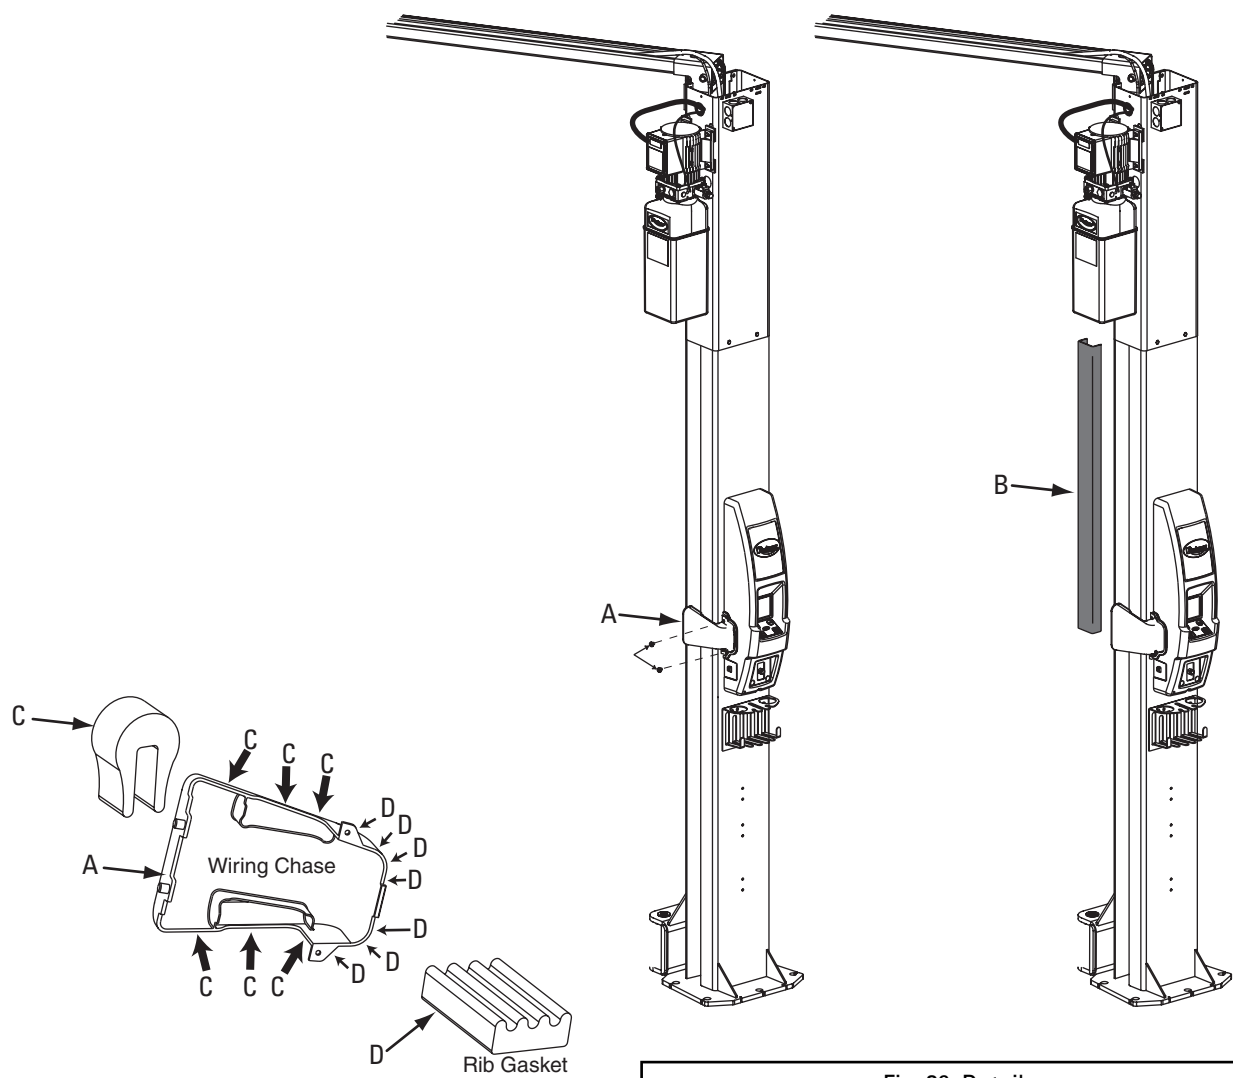

Fig. 39 Detail
30. Web covering and wire chase placement, Fig. 39: Start by wire tying all the wires and hoses neatly and out of the way of the cables. Place edge and rib gaskets around wire chases. Take one of the wire chases and attach it to one of the control panels with two #8-32NC x 5/8" Lg. PHTS. It may be necessary to remove the cover of the control assembly to install the wiring chase and maintain seal position. Snap the front of the wire chase into the column. Next slide the 1 meter cover up into the column extension and then down into the wire chase. Adjust covers accordingly to make sure hoses and wires are covered.